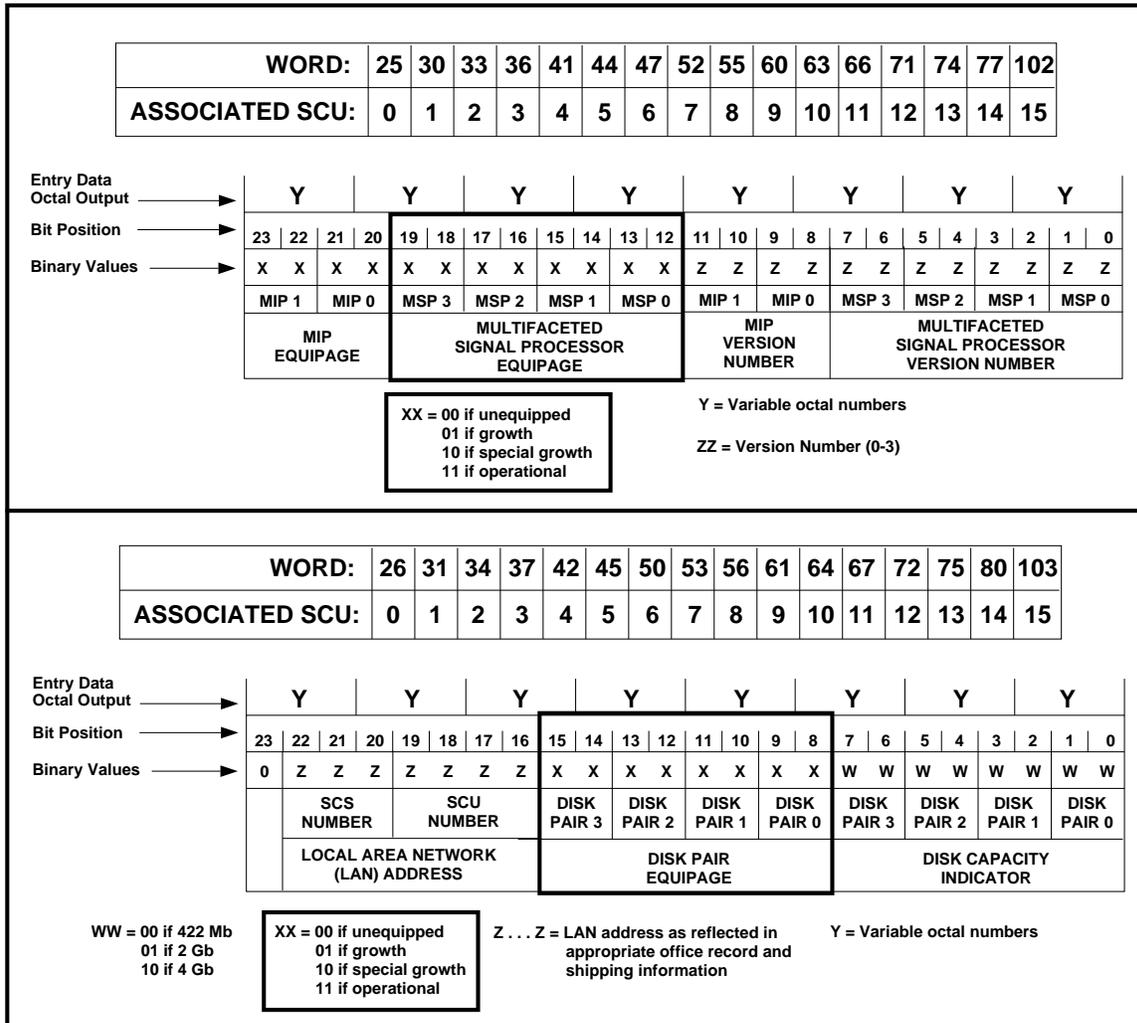

Figure 1. Words in SCS Unit Type Translator Used to Determine MSP and Disk Pair Equipage
5. Use Figure 1 and the printout from Step 4 to verify that SCU subunit data equipage (MSP and disk pair equipage) is in the GROW state **for all applicable SCUs**.